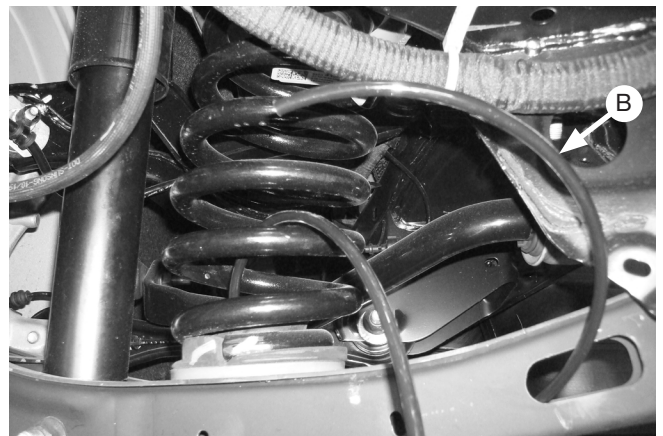

Fig. 8
1. Route the air line (B) into the coil spring, down through the hole in the lower control arm and, while feeding it through, direct the air line toward the center of the vehicle (Fig. 8). Route the air line out the front of the large rectangle hole in the lower control arm.